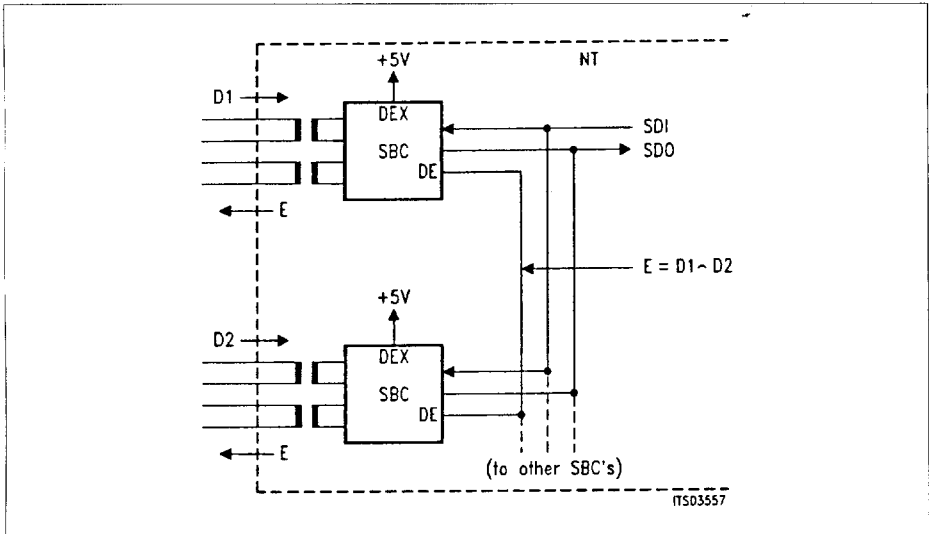

Figure 18
In NT mode, the SBC transmits the D-bit state over pin X0 (DE). A star configuration may be implemented by connecting pins X0 of several SBC's together (open drain with integrated pull up). With X1 (DEX, D-E-External mirroring) tied to logical "1", the SBC transmits the resulting DE (wired AND for all SBC's) as the S-interface echo bit. **See figure 18.**